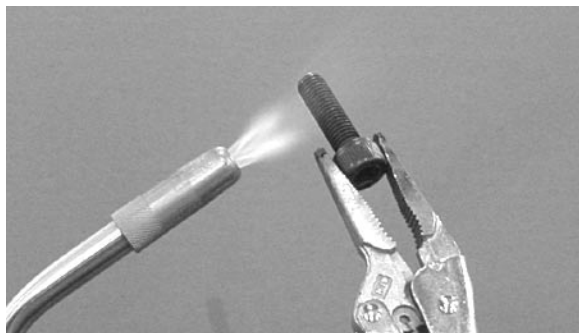

FIG. 1
1. Locate a screw that matches the thread size of the insert. Hold the screw with lock-grip pliers and carefully heat the end of the screw until red hot (Figure 1).
2. Locate a screw that matches the thread size of the insert. Hold the screw with lock-grip pliers and carefully heat the end of the screw until red hot (Figure 1). *NOTE: Do not apply flame directly on insert, damage may result.*